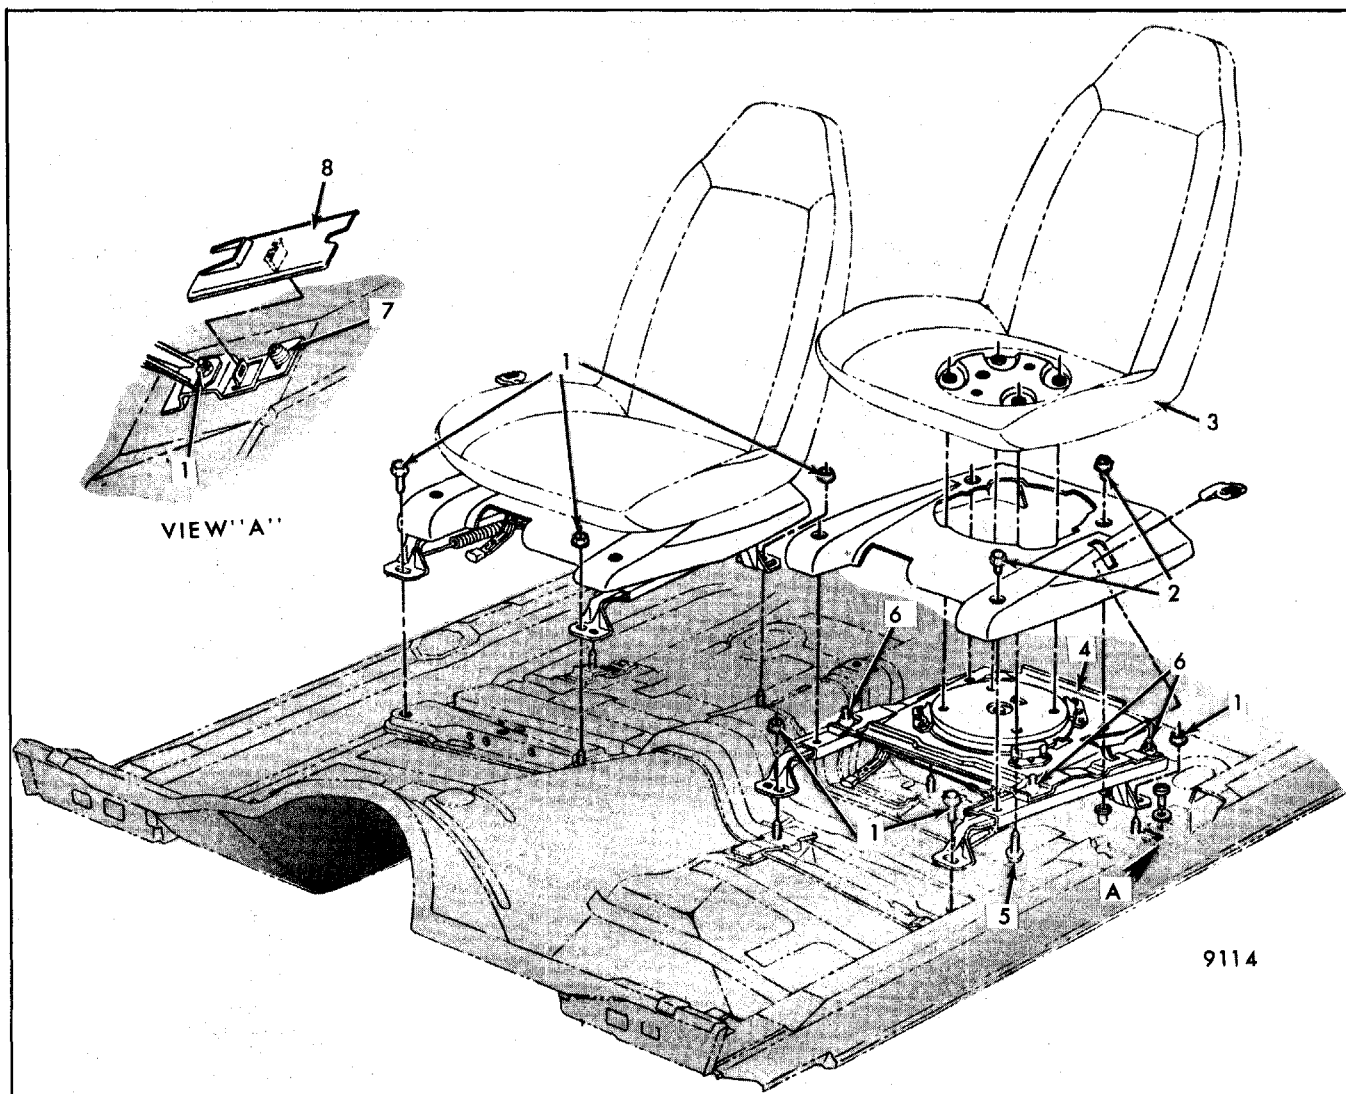

Fig. 9-16-Swivel Bucket Seat and Adjusters
6. Figure 9-16 - Swivel Bucket Seats